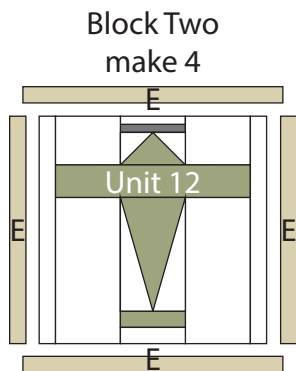

Fig. 19
19. Sew (1) $1\frac{1}{2}$ " x $14\frac{1}{2}$ " Fabric E strip to each side of (1) Unit 12 square. Sew (1) $1\frac{1}{2}$ " x $16\frac{1}{2}$ " Fabric E strip to the top and bottom of the Unit 12 square to make (1) $16\frac{1}{2}$ " x $16\frac{1}{2}$ " Block Two square (Fig. 19). Repeat to make (4) Block Two squares total.